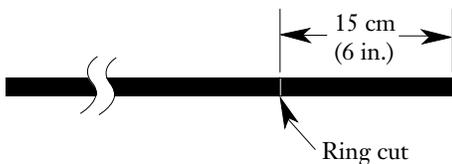

Figure 3
5.1 Use the hook blade to carefully make a ring cut 15 cm (6 in) from the end of the sheath (Figure 3) – Use care to avoid damaging the buffer tubes.